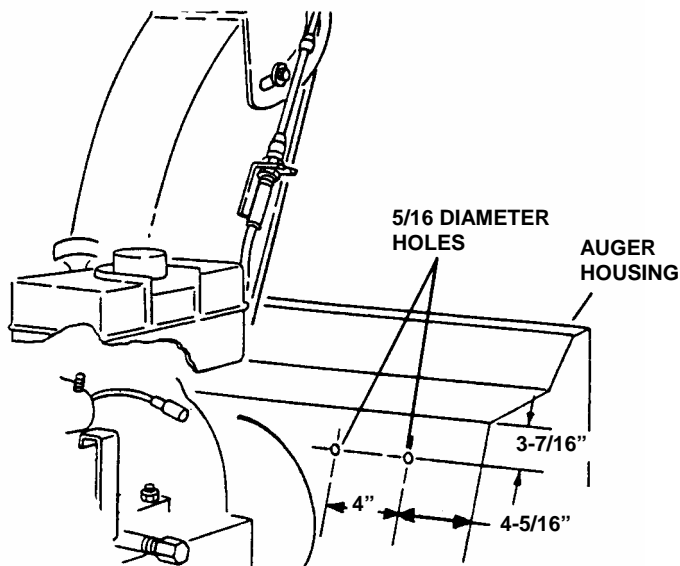

FIGURE 1
STEP 1: Drill two 5/16 diameter holes in right side of auger housing using dimensions shown. See Figure 1.